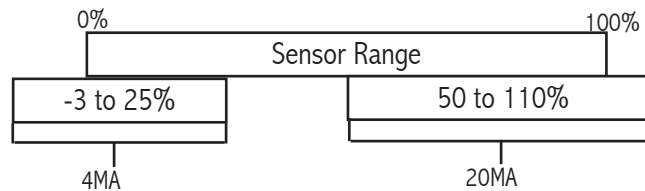

Figure 14
- Setting the 4 mA portion of the scale (see Figure 14):
- Setting the 20 mA portion of the scale (see Figure 14):